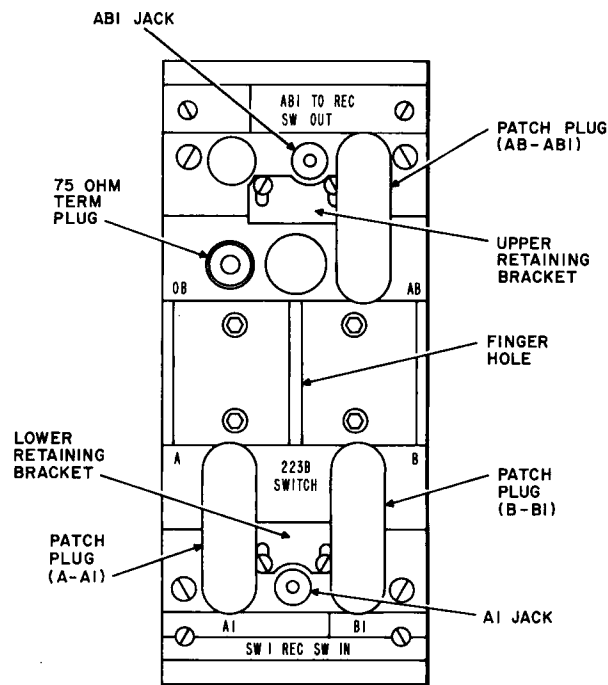

Fig. 6—Typical L3 Switch Arrangement at the Receive End (2-Line)
- 2 At the receive end (miscellaneous bay), patch the multiple A1 jack to the multiple AB1 jack using a maximum 2-foot cord (Fig. 6).